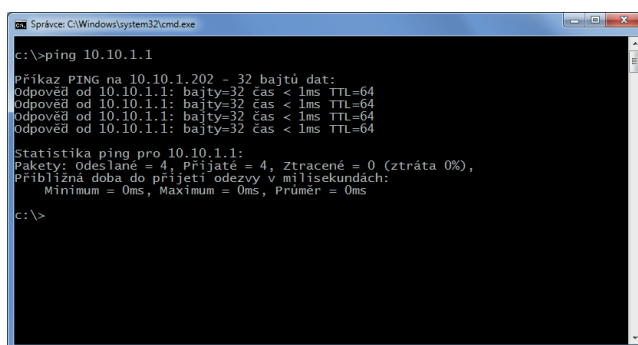

Fig. 78: The device is available. All right.
5. View the result. If the instrument is available, then the result looks similar to Fig. 78. This is the desired state.